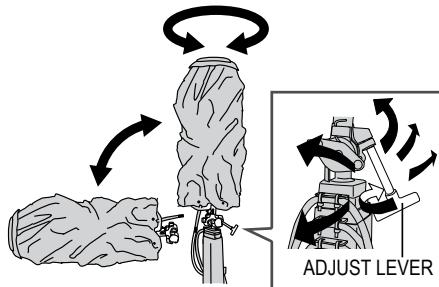

Figure 11. Tilting Balloon to Desired Position
2. Place both hands on the balloon light assembly and slowly tilt the adjust lever to the desired position (Figure 11).